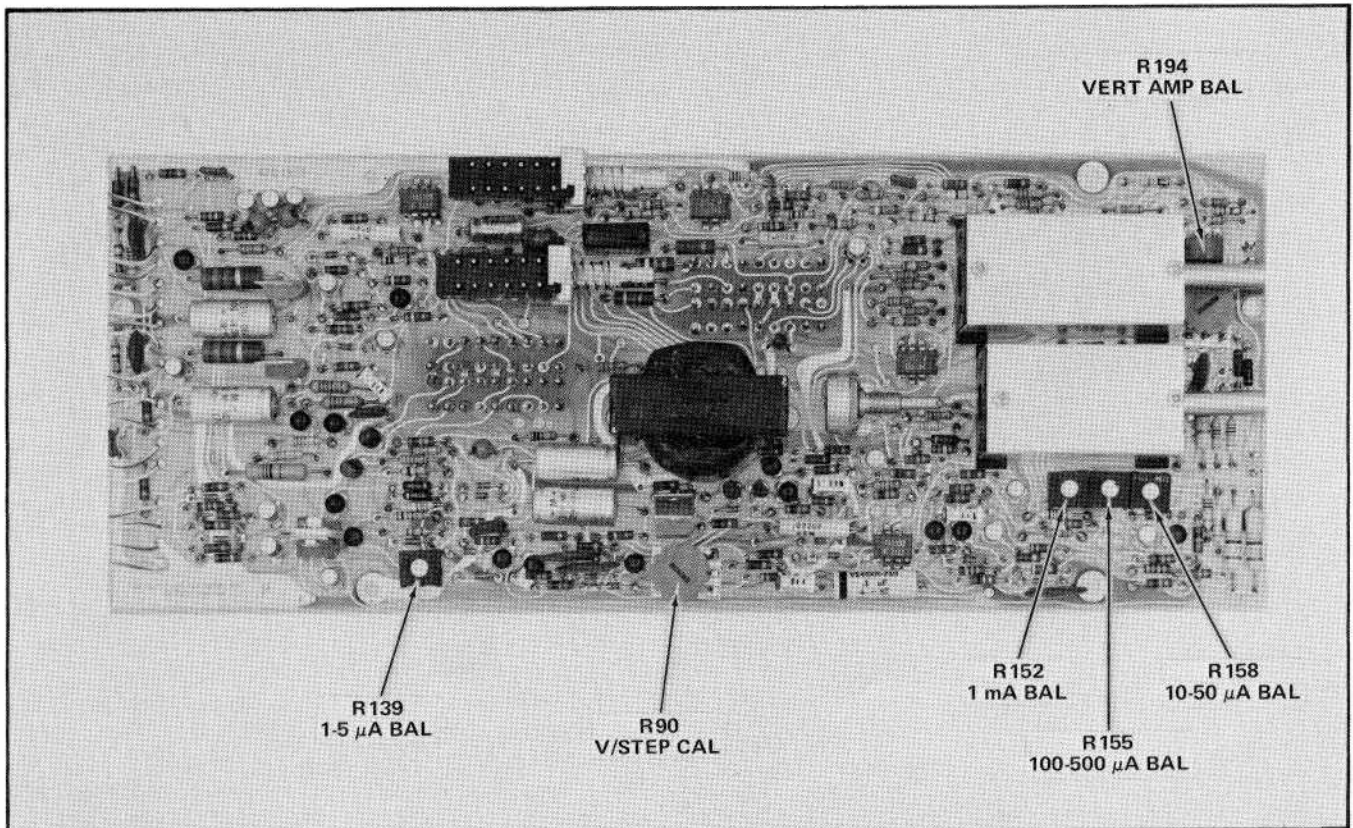

Fig. 3-1. Location of internal adjustments for the 7CT1N.
d. ADJUST—R194, the VERT AMPL BAL adjustment (see Fig. 3-1), for no vertical shift in spot between the two positions of the VERTICAL switch.
e. ADJUST—R139, the 1-5  $\mu$ A BAL adjustment (see Fig. 3-1), to move the trace to the center horizontal graticule line.